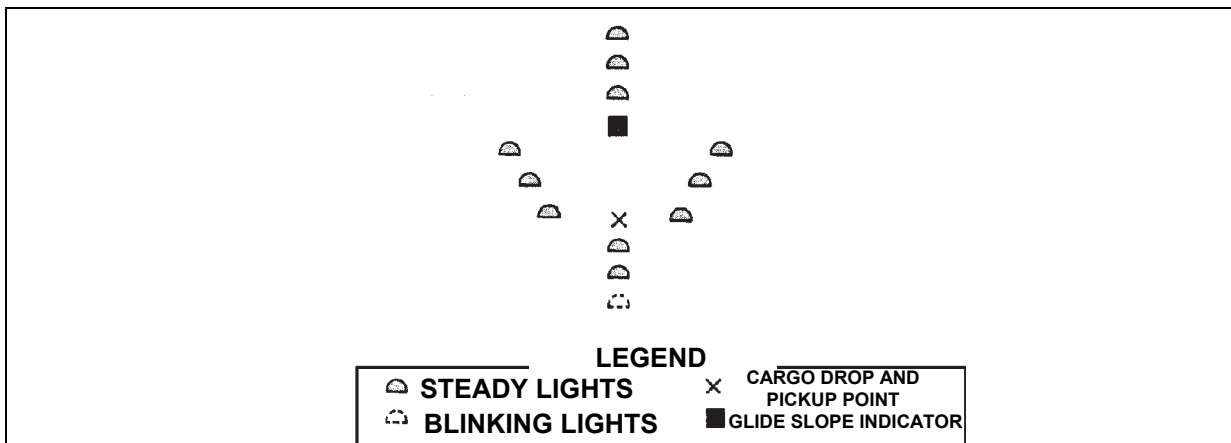

Figure 4-15. GAIL System
- **Glide Angle Indicator Light (GAIL).** (USMC) The GAIL system is used whenever possible (figure 4-15). The GAIL is positioned to project its beam along the preferred direction of approach. The glide path angle must provide clearance over the highest obstacle along the avenue of approach. Glide path angles from 3 to 8 degrees are common and acceptable. Angles greater than 8 degrees are considered too steep and could cause difficulty in maintaining the aircraft on the glide path. Since the GAIL has a narrow beam width, assist the pilot in finding it by placing additional lights in the landing site. Remember, the preferred direction of approach is into the wind. However, when the landing site size does not allow the glide path to be directed into the wind without exceeding 8 degrees, the GAIL system should be shifted left or right to a glide path of less than 8 degrees. Approach azimuth and glide path angle information are transmitted to the pilot in the briefing. When adjusting the GAIL scope, make sure that it is far enough away from the front marker lights (normally 30 meters) to give the pilot enough distance to maneuver over the landing point. It may be necessary to secure the GAIL scope to the ground using sand bags or tent pins, so that it is not blown over by the helicopter rotor wash.